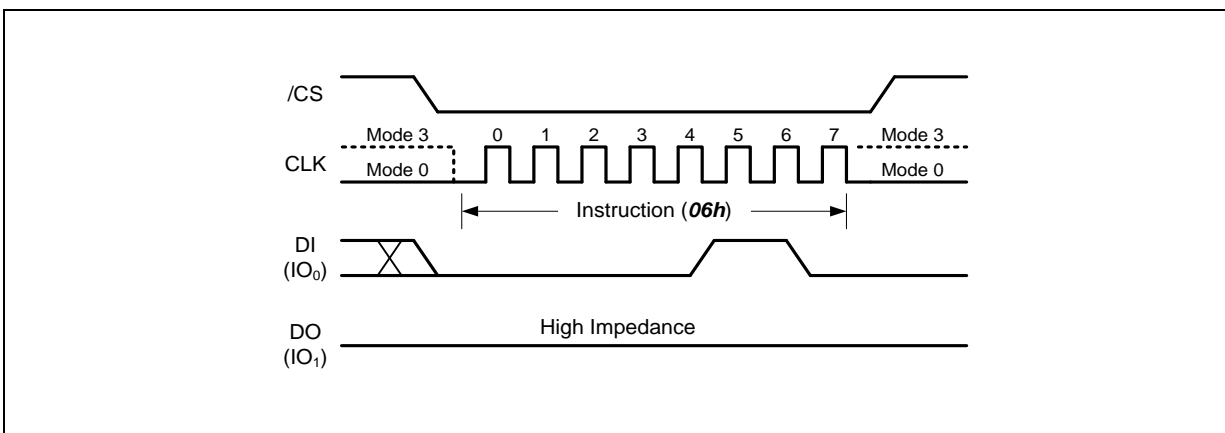

Figure 9. Write Enable Instruction
The Write Enable instruction (Figure 9) sets the Write Enable Latch (WEL) bit in the Status Register to a 1. The WEL bit must be set prior to every Page Program, Quad Page Program and Block Erase instruction. The Write Enable instruction is entered by driving /CS low, shifting the instruction code “06h” into the Data Input (DI) pin on the rising edge of CLK, and then driving /CS high.